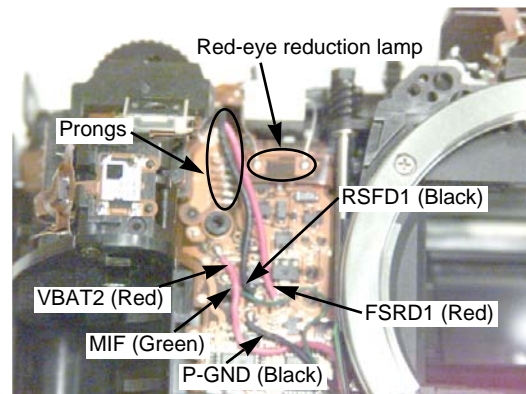

Fig. 3-14 MD flex
1. On the MD flex, desolder the five lead wires, lamp prongs, and flex prongs. (See Fig. 3-14.)